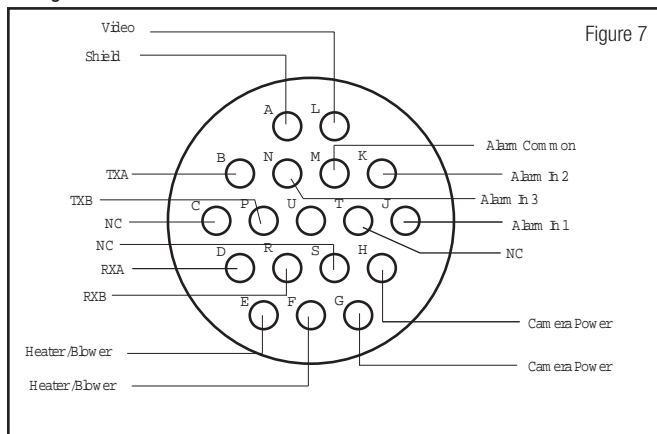

Figure 7
- 5A. Connect incoming power and video wires to the connector supplied. (Figures 7 and 8 for pin out on connector.)